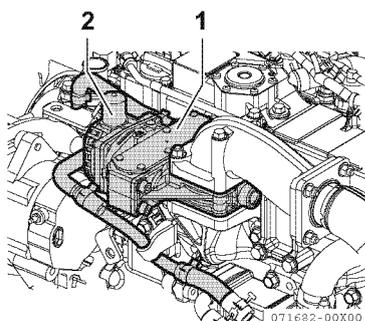

Figure 6-7
12. If there is an exhaust throttle (1, **Figure 6-7**) equipped, remove the electric wirings (2, **Figure 6-7**) from the driven machine side.